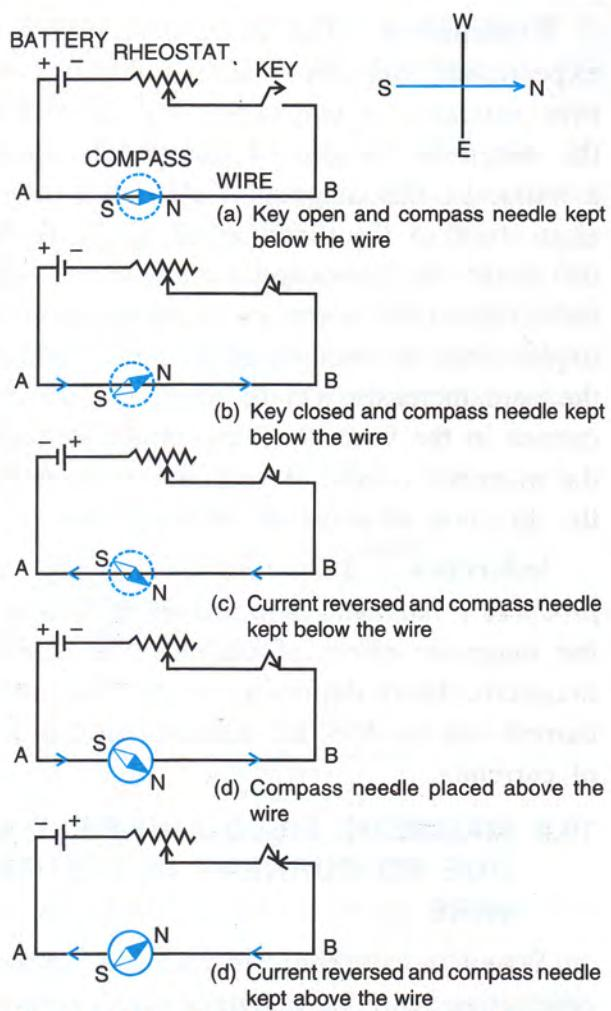

Fig. 10.1 Oersted experiment on the magnetic effect of current
**Experiment :** In Fig. 10.1, AB is a wire lying in the north-south direction and connected to a battery through a rheostat and a tapping key. A compass needle is placed just below the wire.
**Observations :** (1) When the key is open i.e., no current passes through the wire, the needle points in the N-S direction (i.e., along the earth's magnetic field) with the north pole of needle pointing towards the north direction. In this
position, the needle is parallel to the wire as shown in Fig. 10.1 (a).
(2) When the key is pressed, a current passes in the wire in the direction from A to B (*i.e.*, from south to north) and the north pole (N) of the needle deflects towards the west [Fig. 10.1 (b)]. If current in the wire is increased, the deflection of the needle also increases.
(3) When the direction of current in the wire is reversed by reversing the connections at the terminals of the battery, the north pole (N) of the needle deflects towards the east [Fig. 10.1 (c)].
(4) If the compass' needle is placed just above the wire, the north pole (N) deflects towards east when the direction of current in wire is from A to B [Fig. 10.1(d)], but the needle deflects towards west as shown in Fig. 10.1 (e) if the direction of current in wire is from B to A.